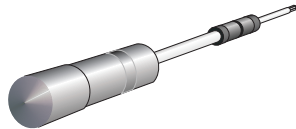

Figure 1-9: Torque Tool and Hex Adapter
- **Torque tool with hexagonal adapter**-The torque tool (with 5/32" hexagonal adapter) is required to remove and replace Director logic cards. The tool is shown in Figure 1-9.